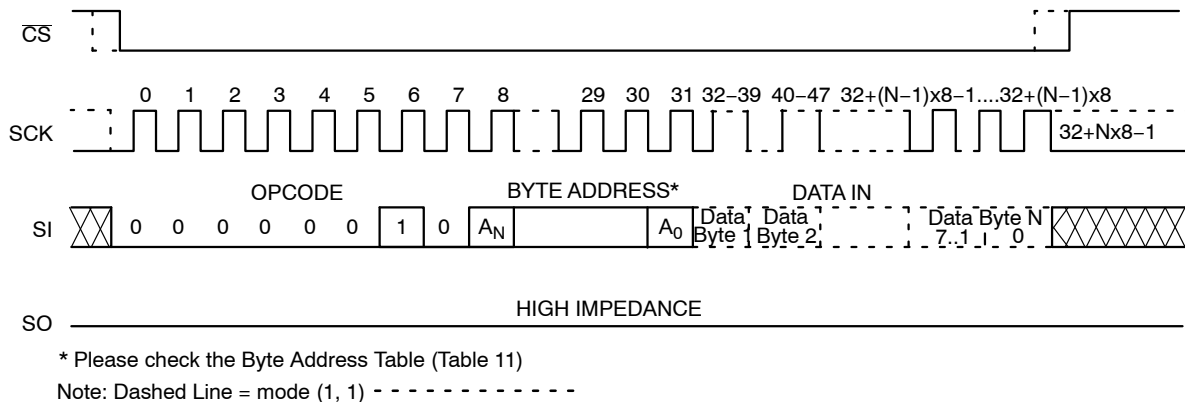

Figure 6. Page WRITE Timing
After sending the first data byte to the CAT25M01, the host may continue sending data, up to a total of 256 bytes, according to timing shown in Figure 6. After each data byte, the lower order address bits are automatically incremented, while the higher order address bits (page address) remain unchanged. If during this process the end of page is exceeded, then loading will “roll over” to the first byte in the page, thus possibly overwriting previously loaded data.
The additional 256-byte Identification Page (IP) can be written with user data using the same Write commands sequence as used for Page Write to the main memory array (Figure 6). **The IPL bit from the Status Register must be set (IPL = 1) using the WRSR instruction, before attempting to write to the IP.**